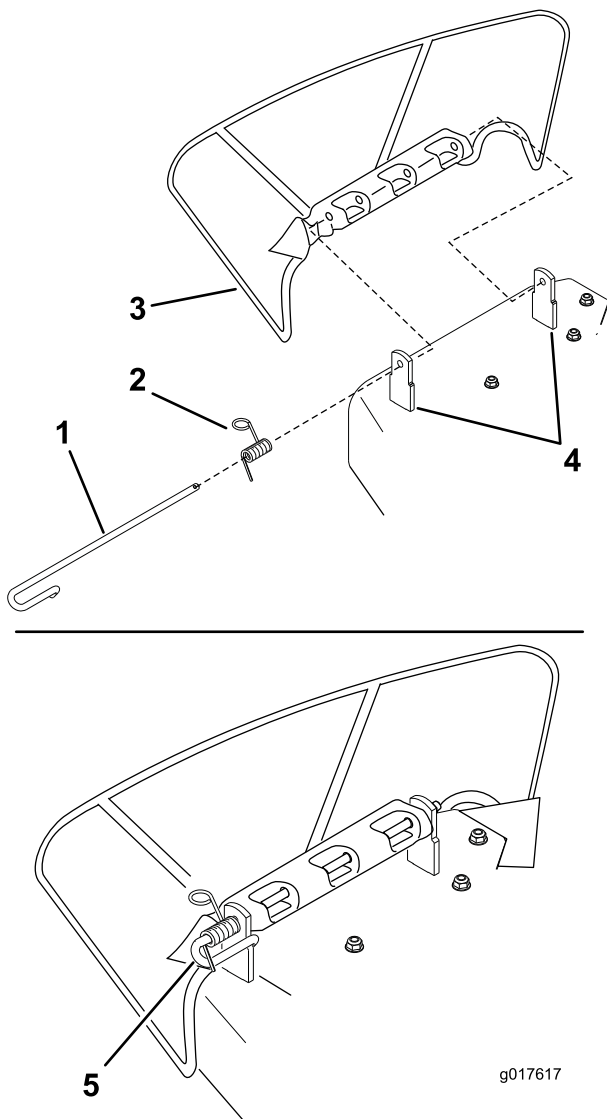

Figure 61
1. Disengage the spring from the notch in the deflector bracket and slide the rod out of the welded deck brackets, spring, and discharge deflector (Figure 61).